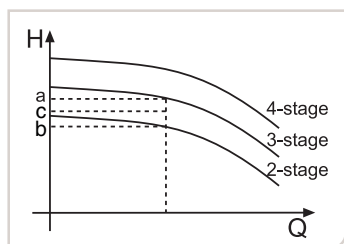

Fig. 7.3.2e Reducing impeller diameter
The connection between impeller diameter (D), capacity (Q), head (H) and type of pump is shown in fig. 7.3.2e.